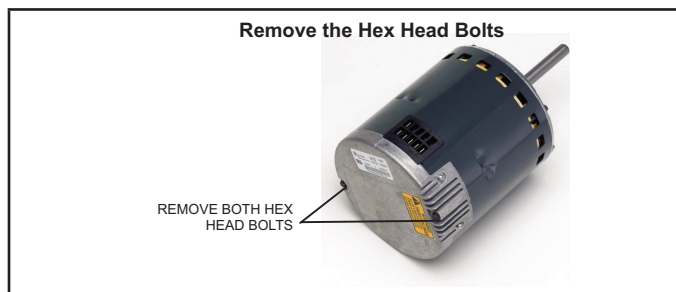

FIGURE 10
- 4 - Remove the two hex head bolts securing the motor control module to the motor (FIGURE 10).
- 3 - Mount new motor control module to motor using two hex head bolts removed in FIGURE 10. Torque bolts to 22 inch pounds or 1/16th clock wise turn.